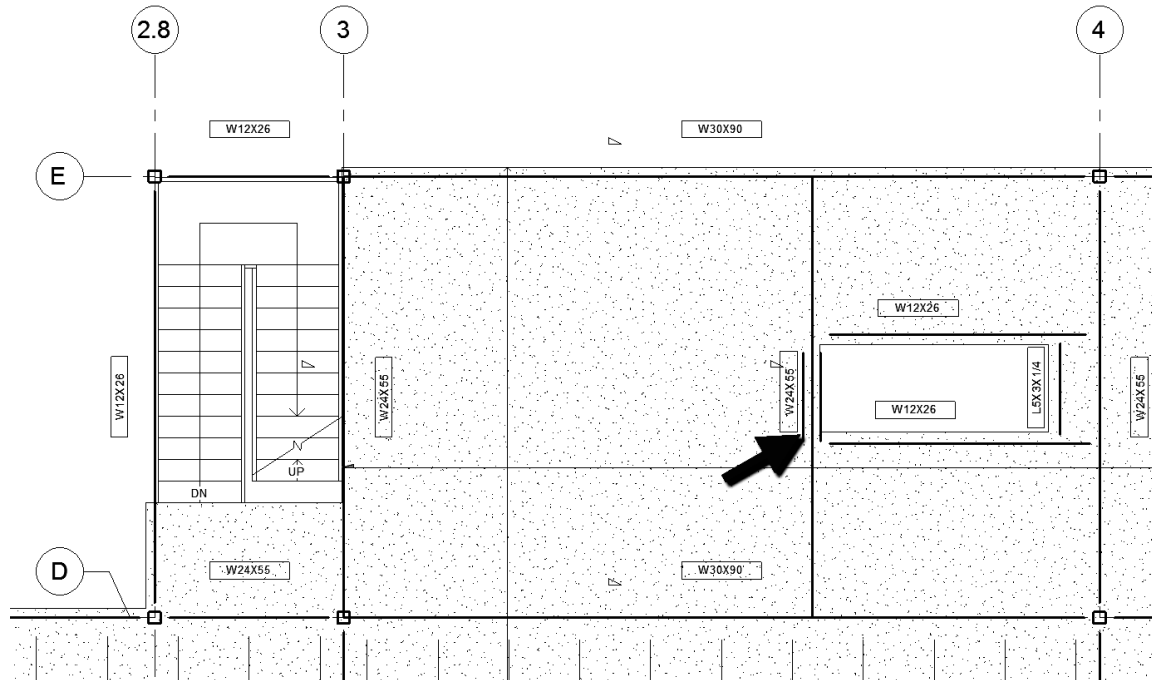

FIGURE 7-4.16 Beam System sketch mode; pick supports and trim used to define perimeter
40. Pick a vertical beam first (see highlighted beam in Figure 7-4.16); this defines the beam span. The beam span is defined by picking a beam parallel to the desired joist span.